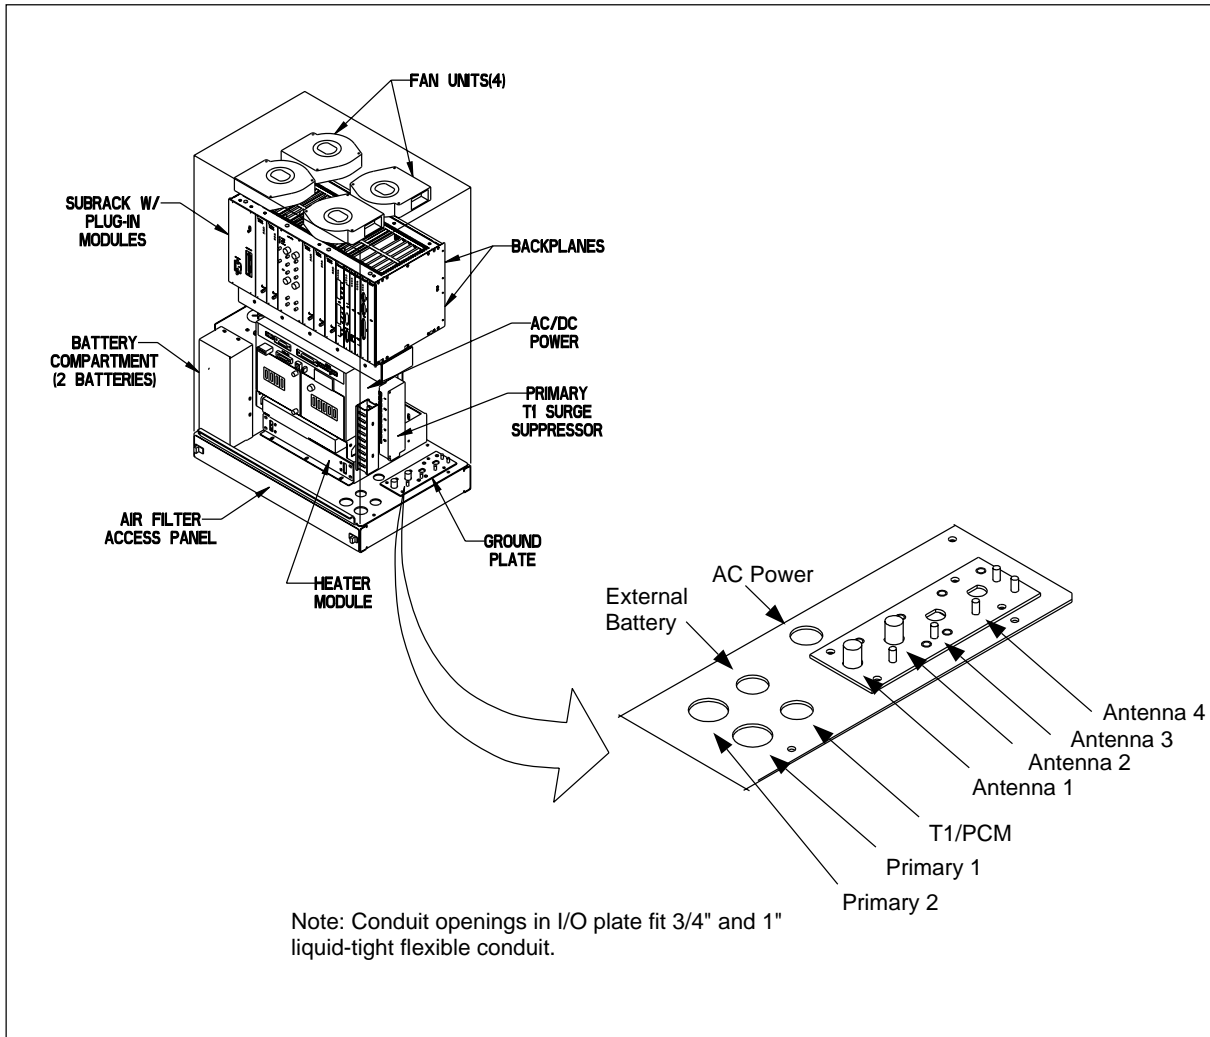

Figure 4-14. Cabinet I/O Plate
5. Route the antenna jumper cables into the base of the cabinet and connect them to the antenna connectors on the bottom of the earthing plate. See Figure 4-14 on page 4-31.